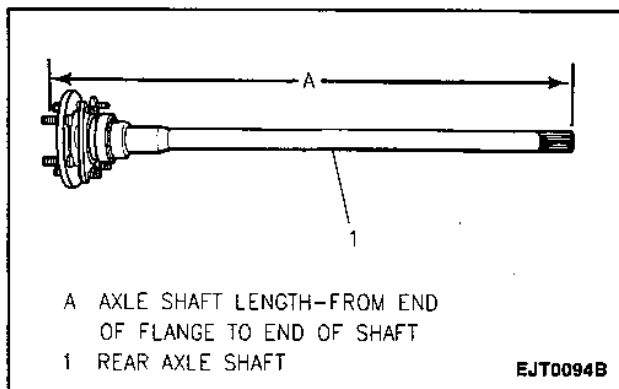

Figure 9—Rear Axle Shaft Lengths
- Rear axle shaft length. Length should be measured from the differential end of the shaft to the outside edge of the axle shaft flange (Figure 9).